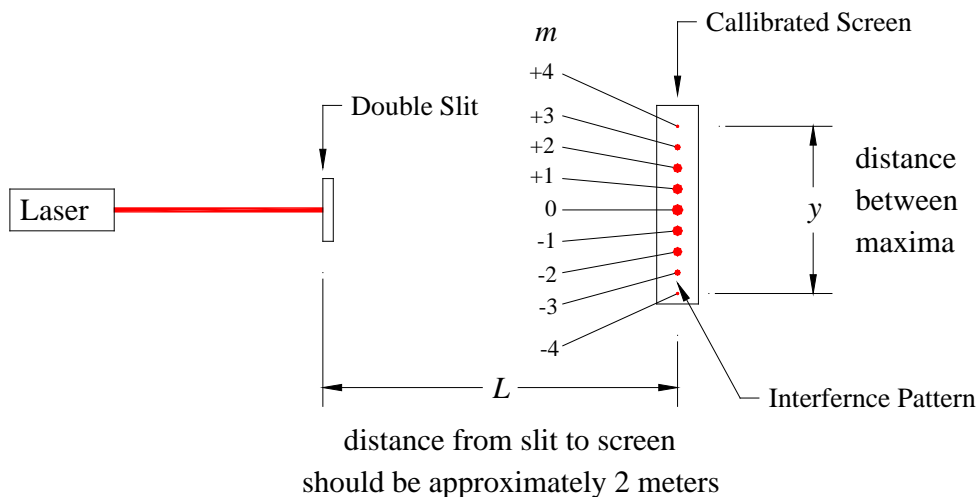

Figure 3 Diagram showing setup for viewing double slit interference. For the y above, Δn is 8.
1) Set up your components as indicated in Figure 3. Adjust the distance between the slit holder and the screen to be approximately 2.0 meters. Also place the slit about 10 to 20cm away from the laser, this will allow the laser beam to expand slightly to illuminate both slits. Turn on your laser. The slit-pairs are labeled from A to D at the top of the slide. Look closely because the slits are very small. Move the slit holder so the beam of the laser illuminates slit pattern A. Watch the screen; you should see a horizontally spread out line of red light that has a series of bright "dots" about 3mm tall by 4mm wide. These "dots" are the interference intensity peaks (the maxima) you are trying to measure. Ever so
5) Return slit pattern A into the beam and optimize its position as you did before. Measure and record the distance L from the slit-pair to the screen. To get the best value for the slit width, choose as large a change in the number of maxima to measure over. Count and record the change in maxima, Δn . Measure and record the distance spanned by these maxima, y . See Figures 3 and 4. Use Eq. 2 to calculate the separation between the slits, d . Estimate the absolute uncertainty in your value for the slit separation. (You should use the method of addition of fractional uncertainties to find the uncertainty in the slit width.)